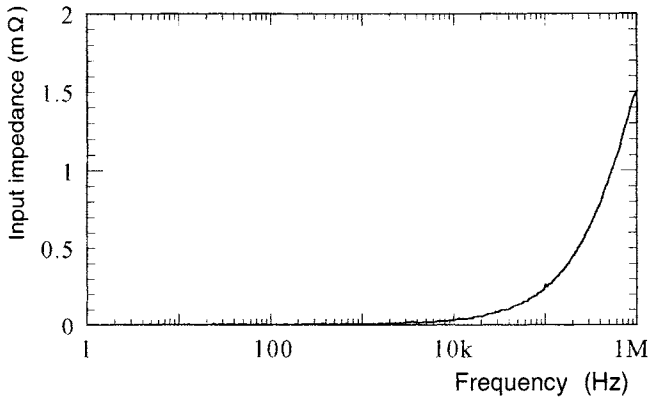

Fig. 1 Input Impedance
■ Input impedance	0.1 m Ω or less at 55 Hz (see Fig. 1)